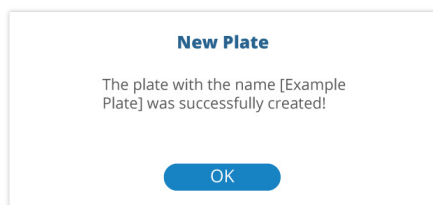

Fig. 37—Confirmation window.
3. Enter the name for the plate and press the *Save* button. A confirmation window appears indicating that the plate was successfully created (Fig. 37). This indicates that this is the first data set for this plate when measurements are taken. The run number displays in the menu bar and indicates the number of times you have run the plate sequence.